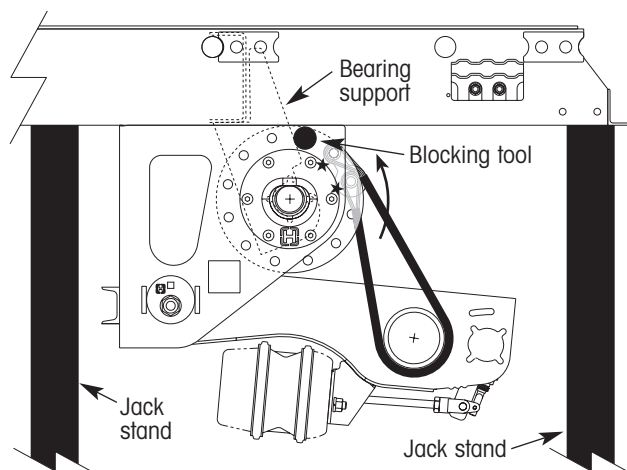

Figure 11. Turn trailer mode valve to "R" position
7. With personnel clear of the trailer suspension, turn the trailer mode valve (figure 3) to the "R" position (rail mode). The trailer will lower slightly onto the jack stands, and the flange plate assembly will rotate counterclockwise until the blocking tool contacts the rear edge of the bearing support, preventing any additional suspension travel (figure 11). Make sure the trailer rests securely on the jack stands.